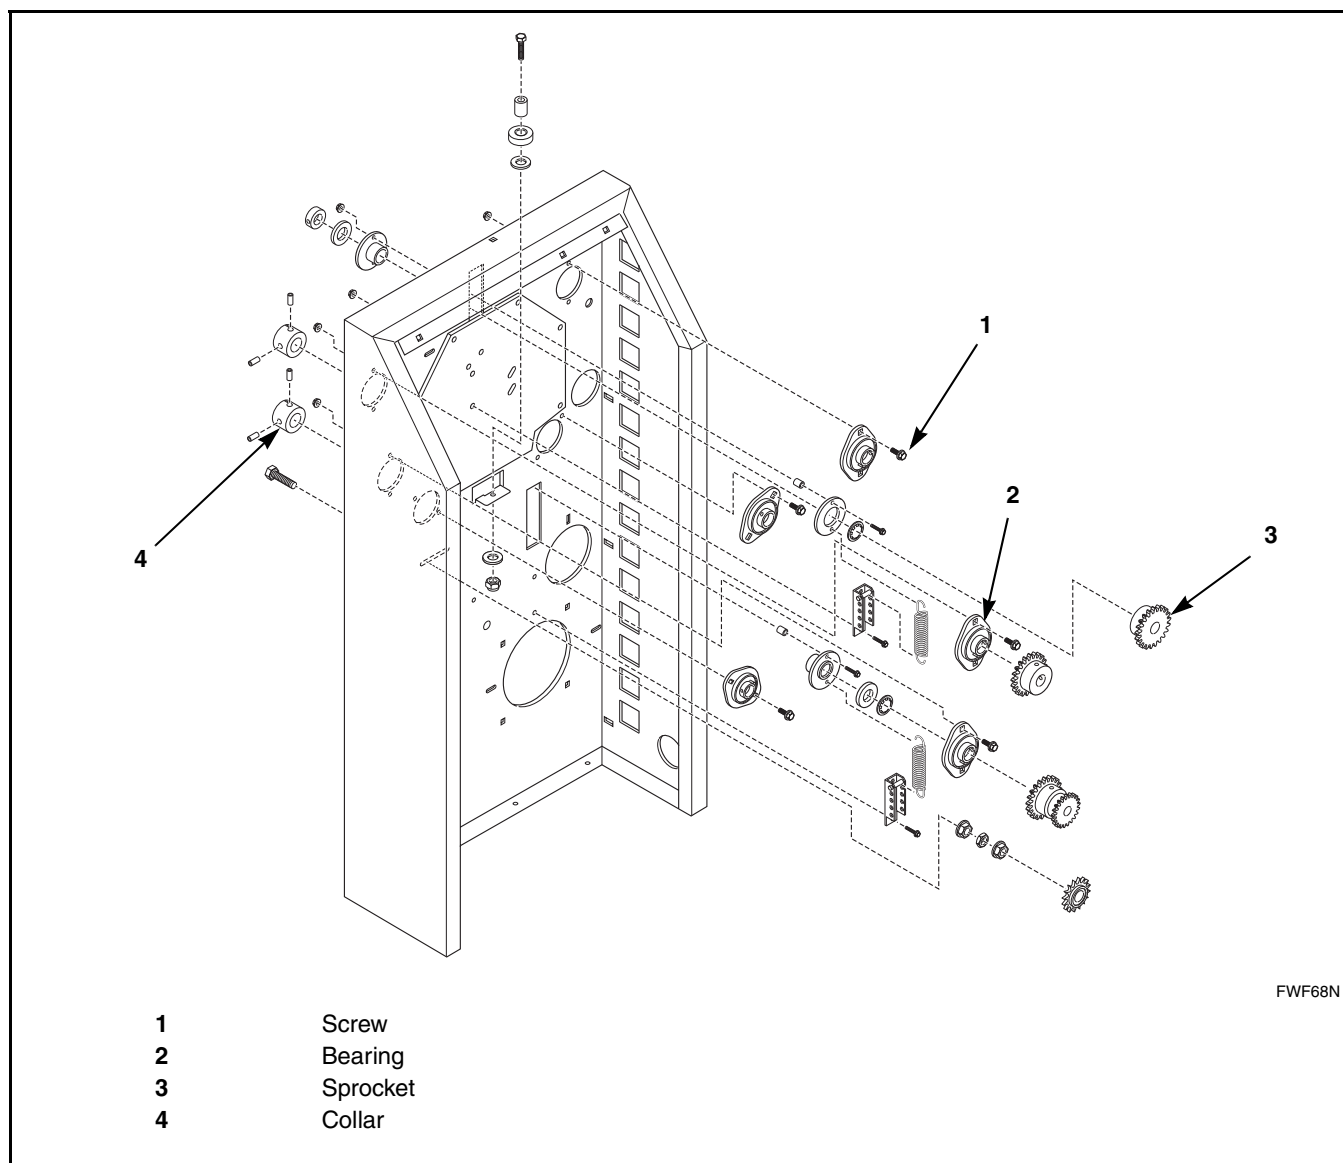

Figure 12
7. Remove hardware attaching rollers to right side, including screws, sprockets, collars and bearings. Refer to *Figure 12*.